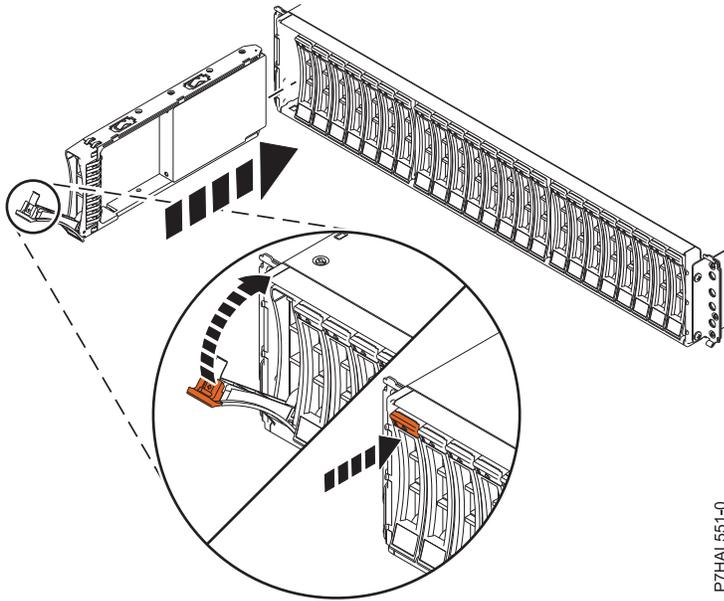

Figure 20. Installing the disk drive in the 5887 expansion unit
1. With the handle in the unlocked position, see Figure 20 on page 33, support the bottom of the disk unit as you align it with the guide rails in the expansion unit. Do not hold the disk unit solely by the handle.